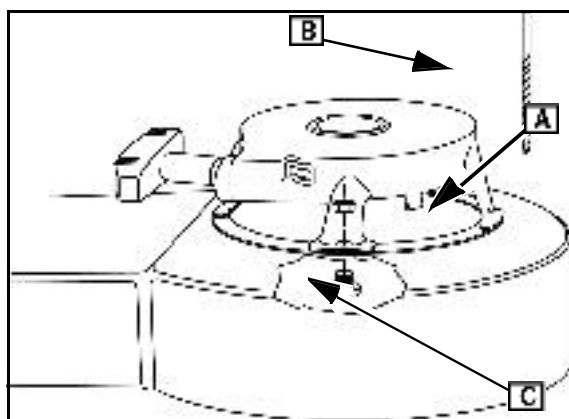

Fig. 2
3. Drill out spot welds (A) using a 3/16 in. (4.8 mm) drill bit ([B] Fig. 2). Drill only deep enough to loosen spot welds.
4. Reinstall using original screws or use nuts and bolts ([C] Fig. 2) as listed in the Illustrated Parts List (IPL).